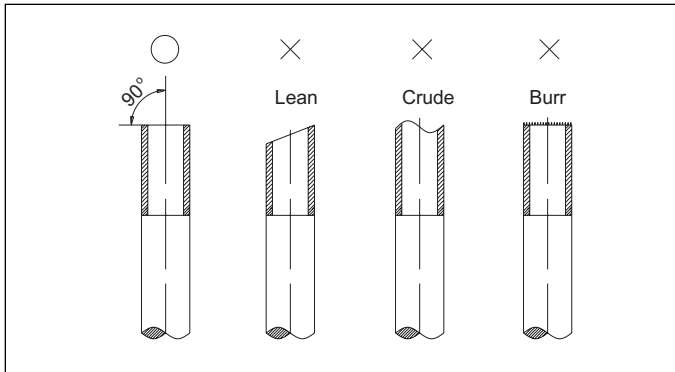

Figure 17. Cutting Pipe
4. Cut the selected pipes with a pipe cutter. Make the cuts flat and smooth as illustrated in "Figure 17. Cutting